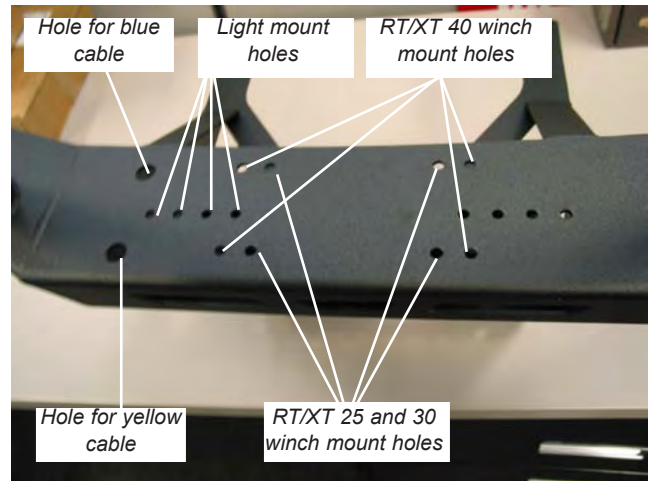
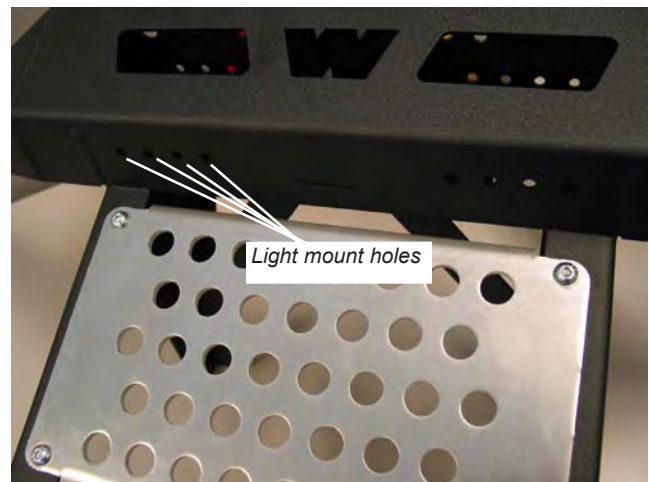

Figure 10
Figure 11
1. WARN winch mounting holes are shown in Figure 10. (For RT/XT 25 and 30, use inside set of holes. For RT/XT 40 winches, use outside set of holes). Pull yellow cable through front hole and blue cable through rear hole after sliding conduit over top both cables. 1/4" ID conduit is to be used for RT/XT 25 winches; 3/8" ID conduit is to be used for RT/XT 30 and 40 winches.
2. If no winch is mounted on bumper the set of holes, as shown in Figure 10, can be used to mount a set of lights on top of bumper. If winch is used, there are holes on bottom of bumper, as shown in Figure 11, that can be used to mount a set of lights.